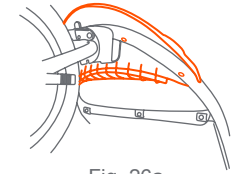

Fig. 26a
- 26) • Line up the front fender and press onto the front frame assembly (Fig. 26a).